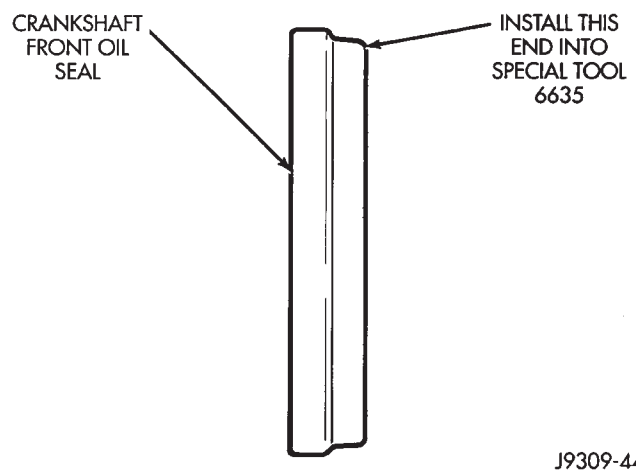

Fig. 42 Placing Oil Seal on Installation Tool 6635
(1) Place the smaller diameter of the oil seal over Front Oil Seal Installation Tool 6635 (Fig. 42). Seat the oil seal in the groove of the tool.